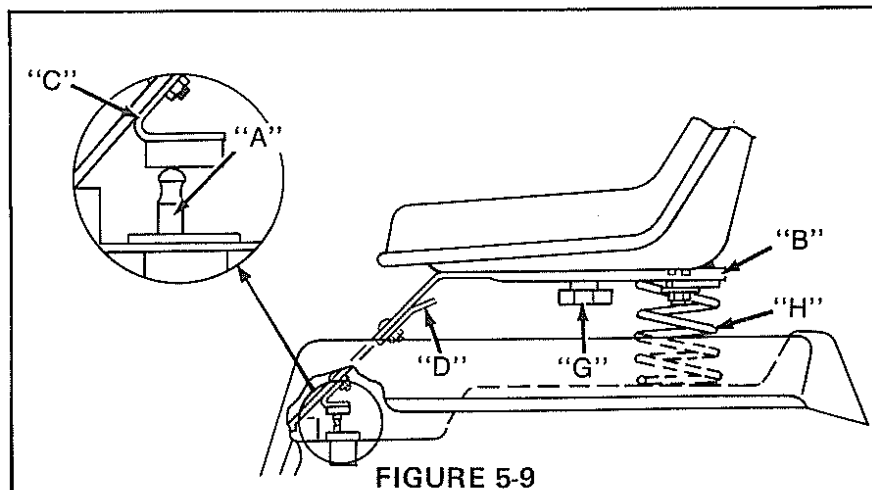

FIGURE 5-9
(Figure 5-9)
6. The second switch is below the seat (E), Figure 5-9. This switch should be activated by the back edge of seat support (F) depressed 5/8" (16 mm). Loosen bracket (C) and move to correct location. The switch can also be activated by the seat and lifting the back button UP.